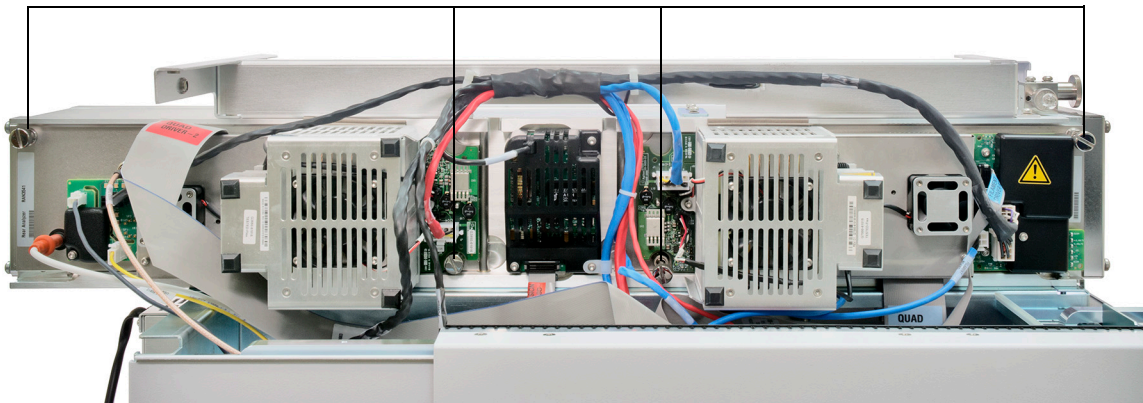

Figure 8. Side plate thumbscrews
- 8 Finger-tighten the side plate thumbscrews for both analyzers. (See Figure 8 on page 90.)